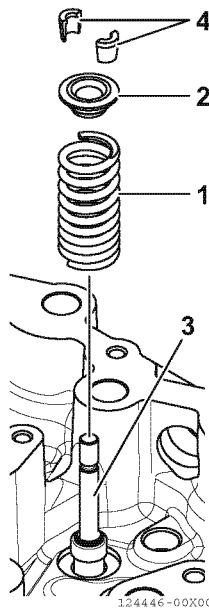

Fig.14-36
5. Place the cylinder head with the combustion side facing down. Attach the valve spring (1, Fig.14-36) and the spring retainer (2, Fig.14-36) to the valve stem (3, Fig.14-36).
6. Using the valve spring compressor tool, compress the valve spring. Insert the cotter (4, Fig.14-36) and slowly loosen the shrunk valve spring.